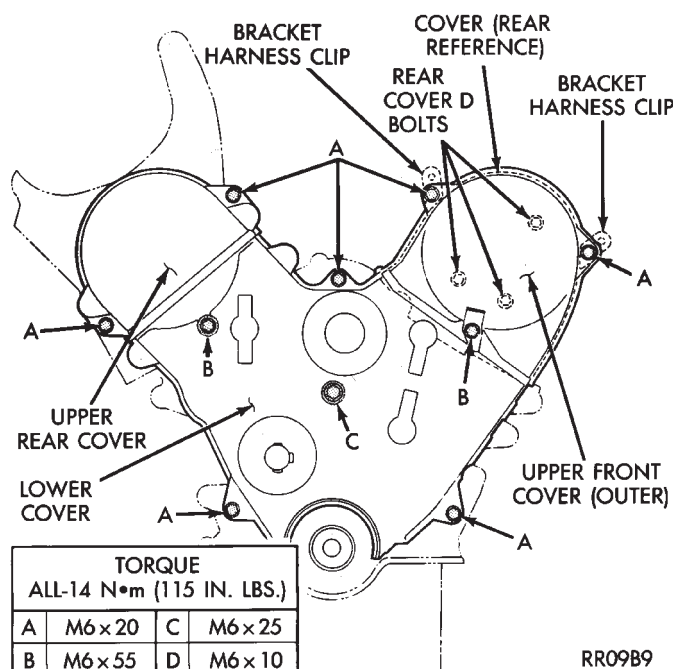
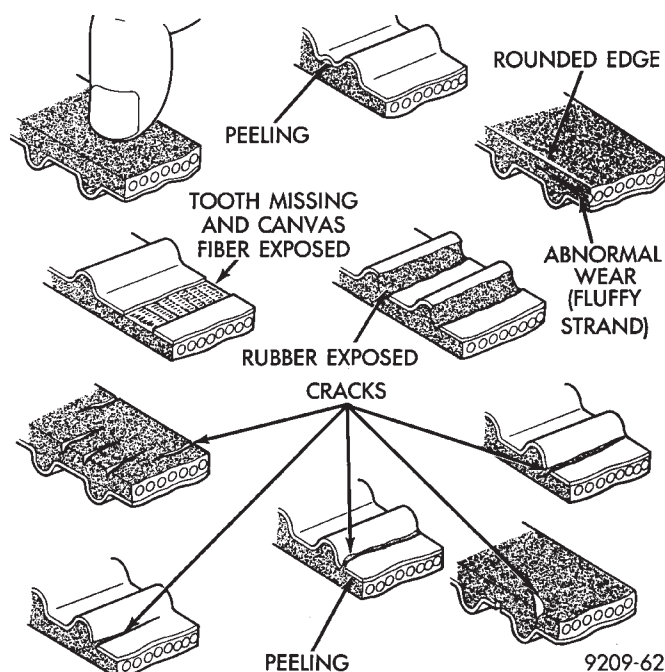

Fig. 11 Timing Belt Covers
Fig. 12 Timing Belt Inspection
(11) Remove timing belt covers (Fig. 11).
(1) Remove the upper front outer timing belt cover by loosening the three attaching bolts. (Fig. 11).
(2) Inspect both sides of the timing belt drive & back. Replace belt if any of the following conditions exist.
- Abnormal wear of belt sides. The sides are normal if they are sharp as if cut by a knife (Fig. 12).
(3) If none of the above conditions are seen on the belt, the belt cover can be reinstalled.
- (4) Install crankshaft sprocket flange (Fig. 12).